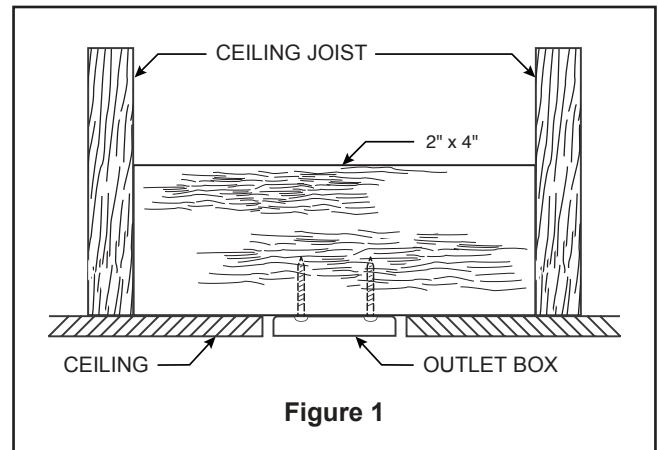
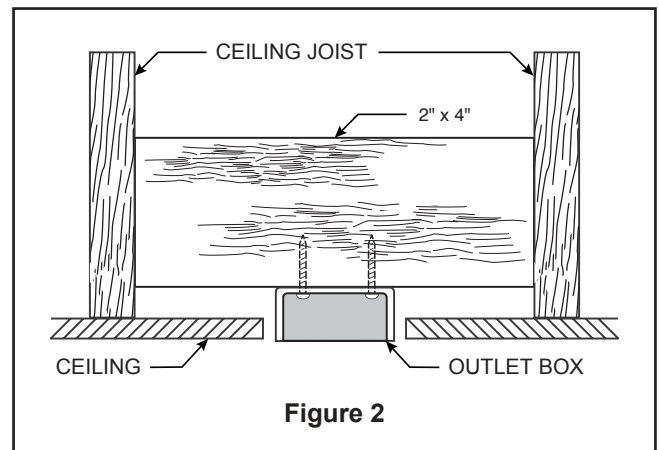
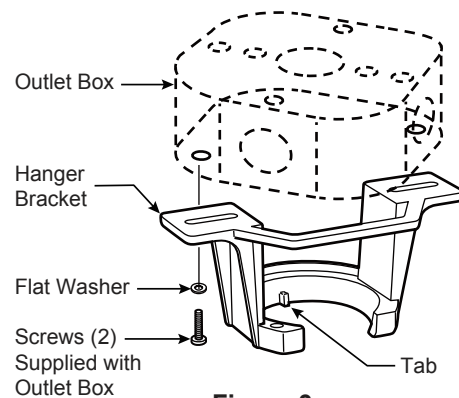

Figure 1
Figure 2
Figure 3
Your new ceiling fan will require a grounded electrical supply line of 120 volts AC, 60 HZ, 15 Amp Circuit. Electrical code requires use of a fan-rated outlet box to support the extra weight and motion associated with a ceiling fan. A fan-rated box will be labeled as such and typically supports up to a 70lb ceiling fan. Fan-Rated Outlet Boxes vary in ratings and design. Ensure the ratings of your ceiling fan outlet box meet the requirements for the ceiling fan being installed. Figure 1, Figure 2 and Figure 3 depicts different structural configurations that may be used for mounting the outlet box.
Low profile box (Figure 1)
Deep box (Figure 2)
Deep box with brace (Figure 3)
3. Loosen the two set screws and locking nuts in the downrod support of the motor housing assembly. Route the black, white and blue wires through the downrod. (Figure 3)
1. Securely attach the hanger bracket to the outlet box (not included) using the outlet box screws and washers supplied with the outlet box. (Figure 3)
- 2. Slide the receiver into the hanger bracket before wiring as shown in figure 3.
- 3. To make fan operational, install 23A/12V battery (included) in hand-held remote transmitter, with fan power off. Then follow the remote code setting process. (If not used for long periods of time, remove battery to prevent damage to transmitter). Store the remote away from excessive heat or humidity. (Figure 3)